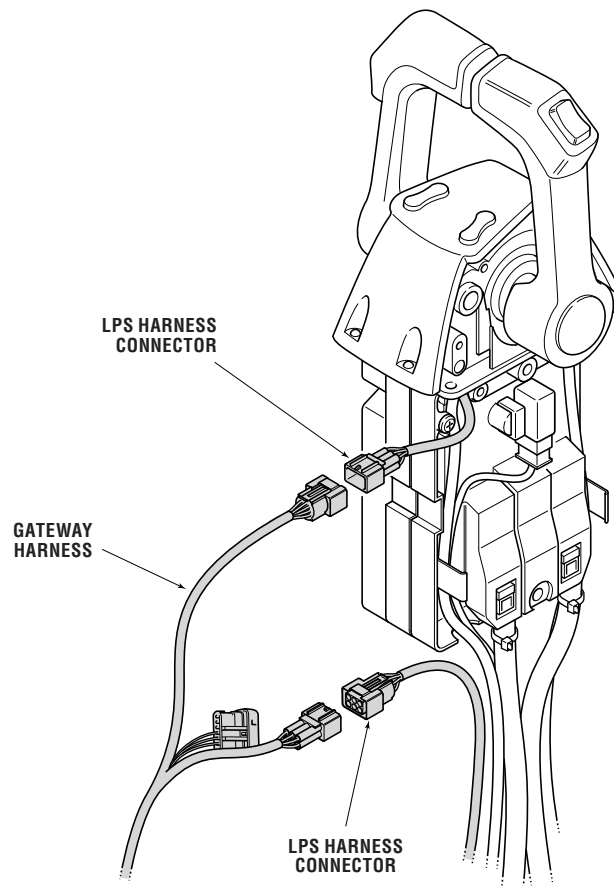

Figure 7-3. Gateway harness connection.
7. Connect the EST gateway harness as shown in figure 7-3. Port harness is identified 'P_LPS' and the starboard harness is identified 'S_LPS.'